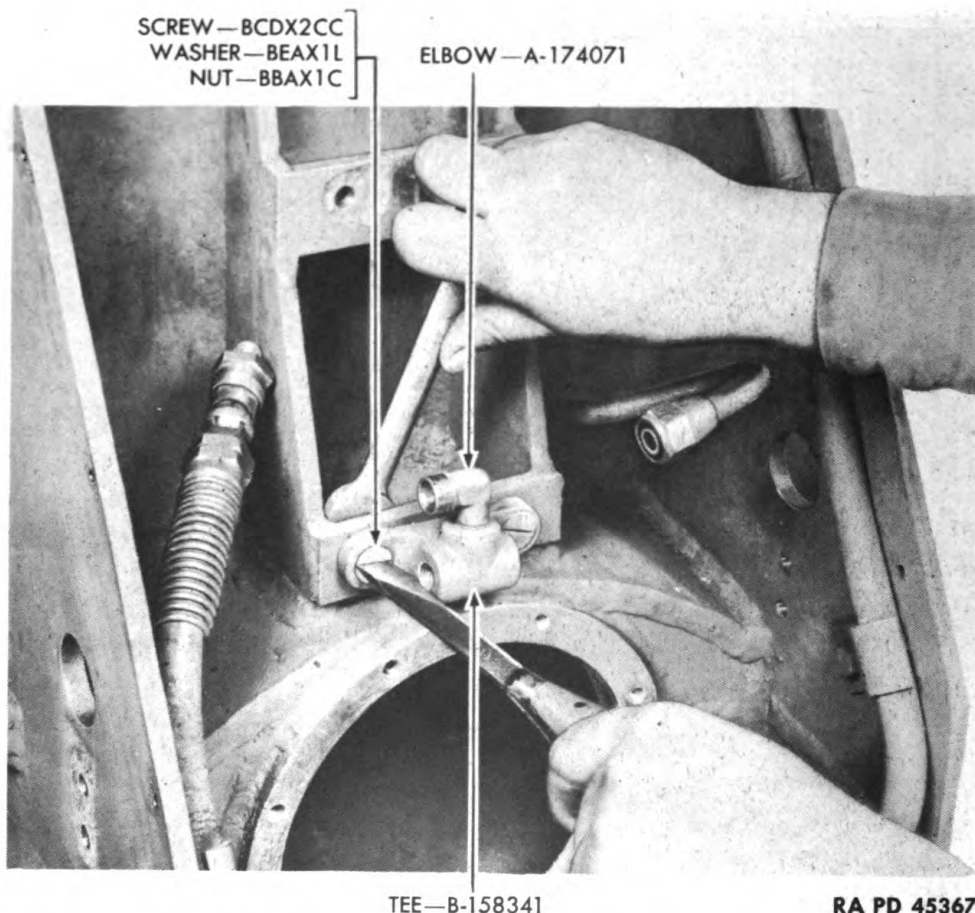

Figure 219—Removing Tee from Bottom Carriage
(10) Remove two screws BCDX2CC, washers BEAX1L, and nuts BBAX1C from tee B158341. Remove tee and elbow A174071 as a unit (fig. 219).
(2) Coat mating surfaces of air line front tee and bottom carriage with LEAD, white. Coat threads of tee retaining screws with COMPOUND, rust-preventive, light. Secure tee and elbow to top carriage with two retaining screws, washers and nuts (fig. 219).